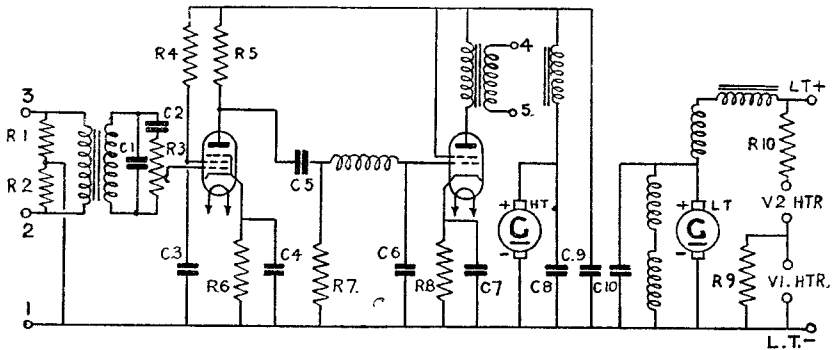

FIG. 97.—Circuit diagram I/C amplifier 3611.
6. **Intercommunication Amplifier 3611** (fig. 97).—The amplifier is a two-stage high gain unit employing a pentode (6SK7), R.C. coupled to a beam tetrode (6V6). The power output is 3 watts at 1,000 cycles and may be worked into loads of 60 to 600 ohms. An internally mounted M.G. gives supplies of 230 volts at 60 mA for H.T. Both valves are cathode biased. The volume control is in the grid circuit of the first stage, and the “on/off” switch is situated in the transmitter remote control unit.